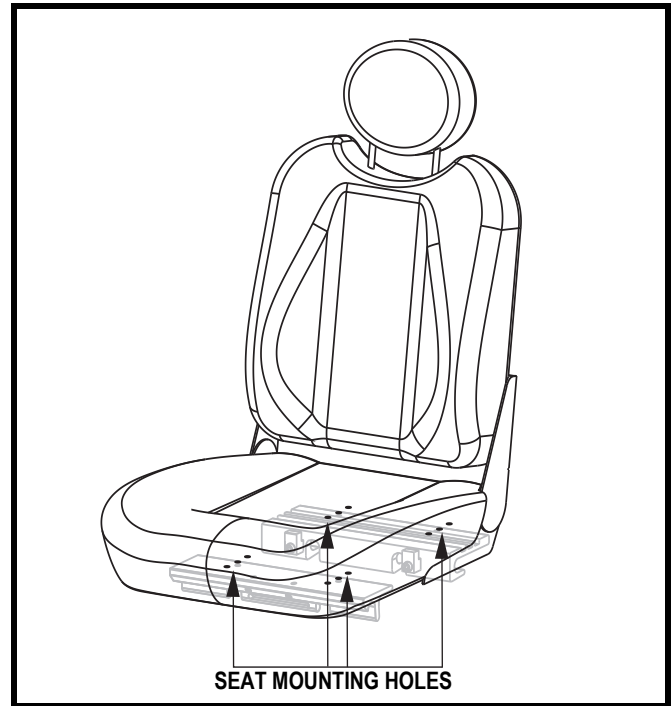

Figure 17. Seat Position Adjustment
6. Reposition the extrusions on a different set of mounting holes. You must move both extrusions the same number of holes either forward or backward. **See figure 17.**